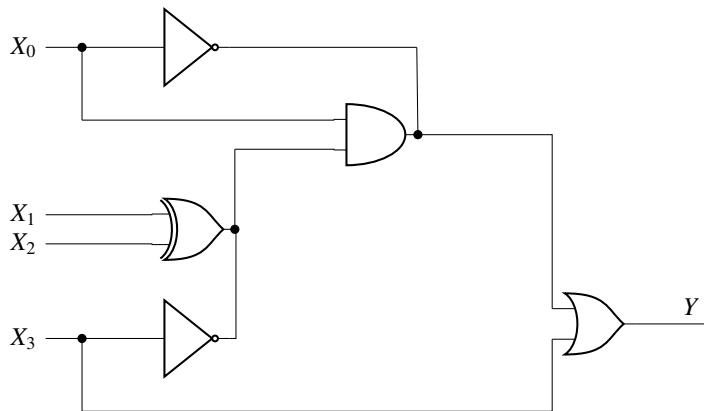

Fig. 3.19
36. In Fig. 3.19, the number of distinct values of $X_3X_2X_1X_0$ (out of the 16 possible values) that give $Y = 1$ is _____.